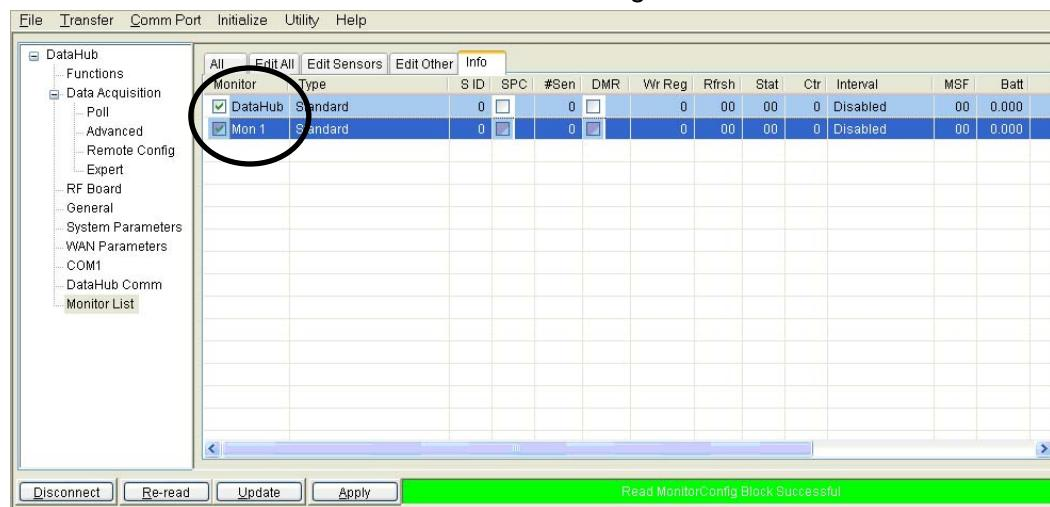

Fig. 7.5: Check DataHub & Monitor
7.14 Click on **Monitor List**. Fig. 7.5
7.15 Click on **DataHub** and **Monitor** check boxes. Fig. 7.5